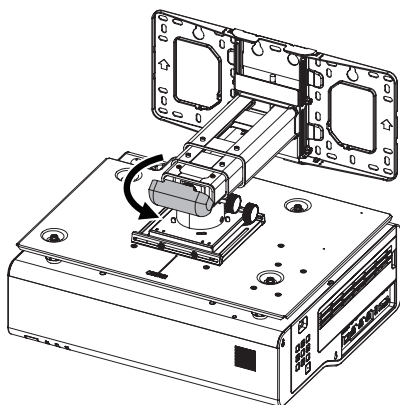

Fig.1
1) Remove the arm cover from the wall mount bracket. (Fig.1)